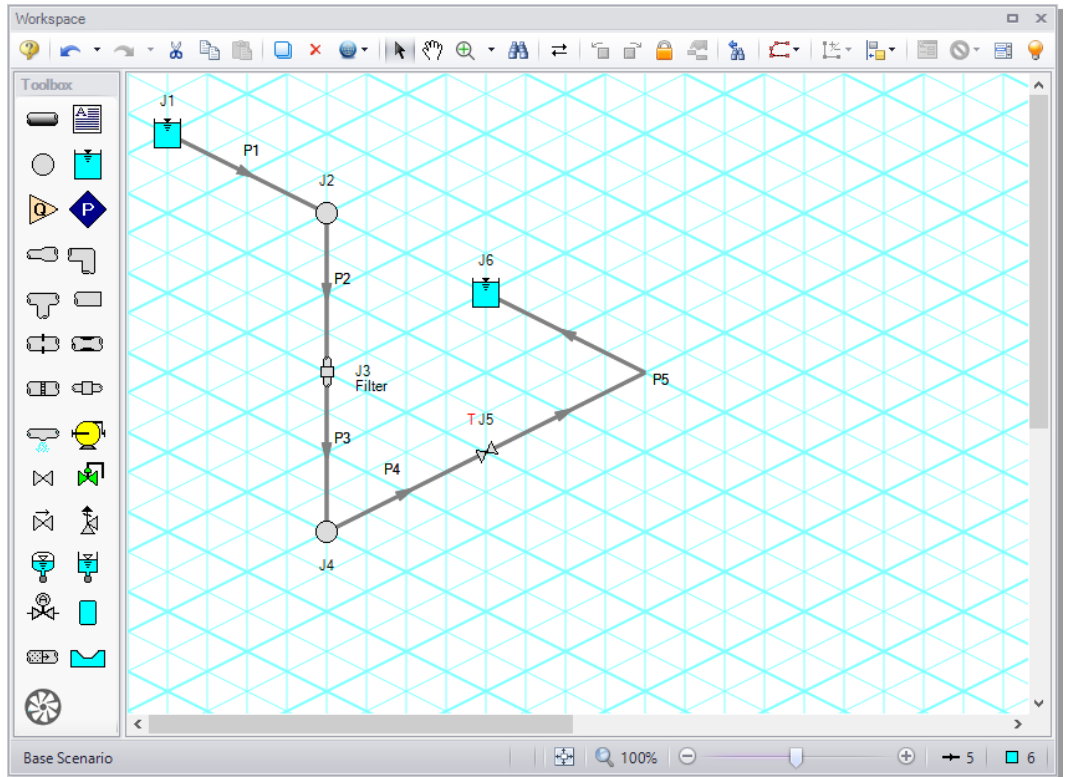

Figure 5.1 Layout of the gravity drain system with isometric grid on
- **From either the Startup screen or the File menu, browse to the model file name shown above.** The workspace should appear as shown in Figure 5.1.